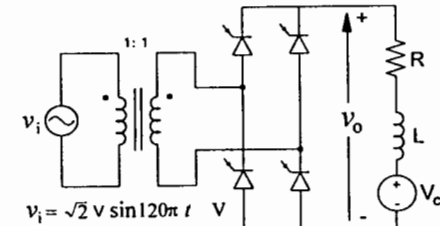

Figure 2: A full-wave controlled rectifier.
2. A single-phase, full-wave, phase-controlled rectifier supplies an inductive load as shown in Figure 2. For $V = 240$ V, $L = 14$ mH, $R = 2 \Omega$, $V_C = 100$ V and $\alpha = 35^\circ$;